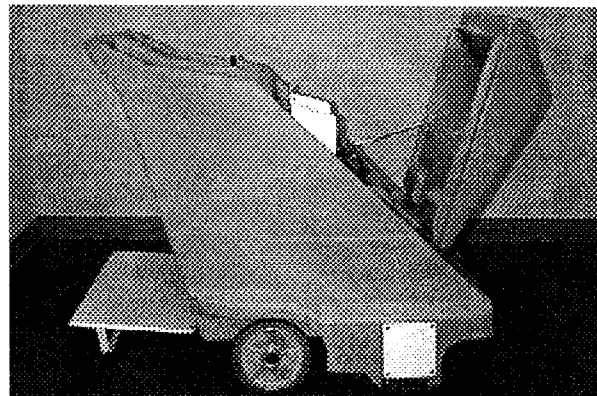

FIG. 3.
2. Open battery hood to access battery compartment. (Figure 3)
3. Open hopper door at rear of machine. When door is open, the vacuum motors will raise allowing clearance for installing batteries. (Figure 3)